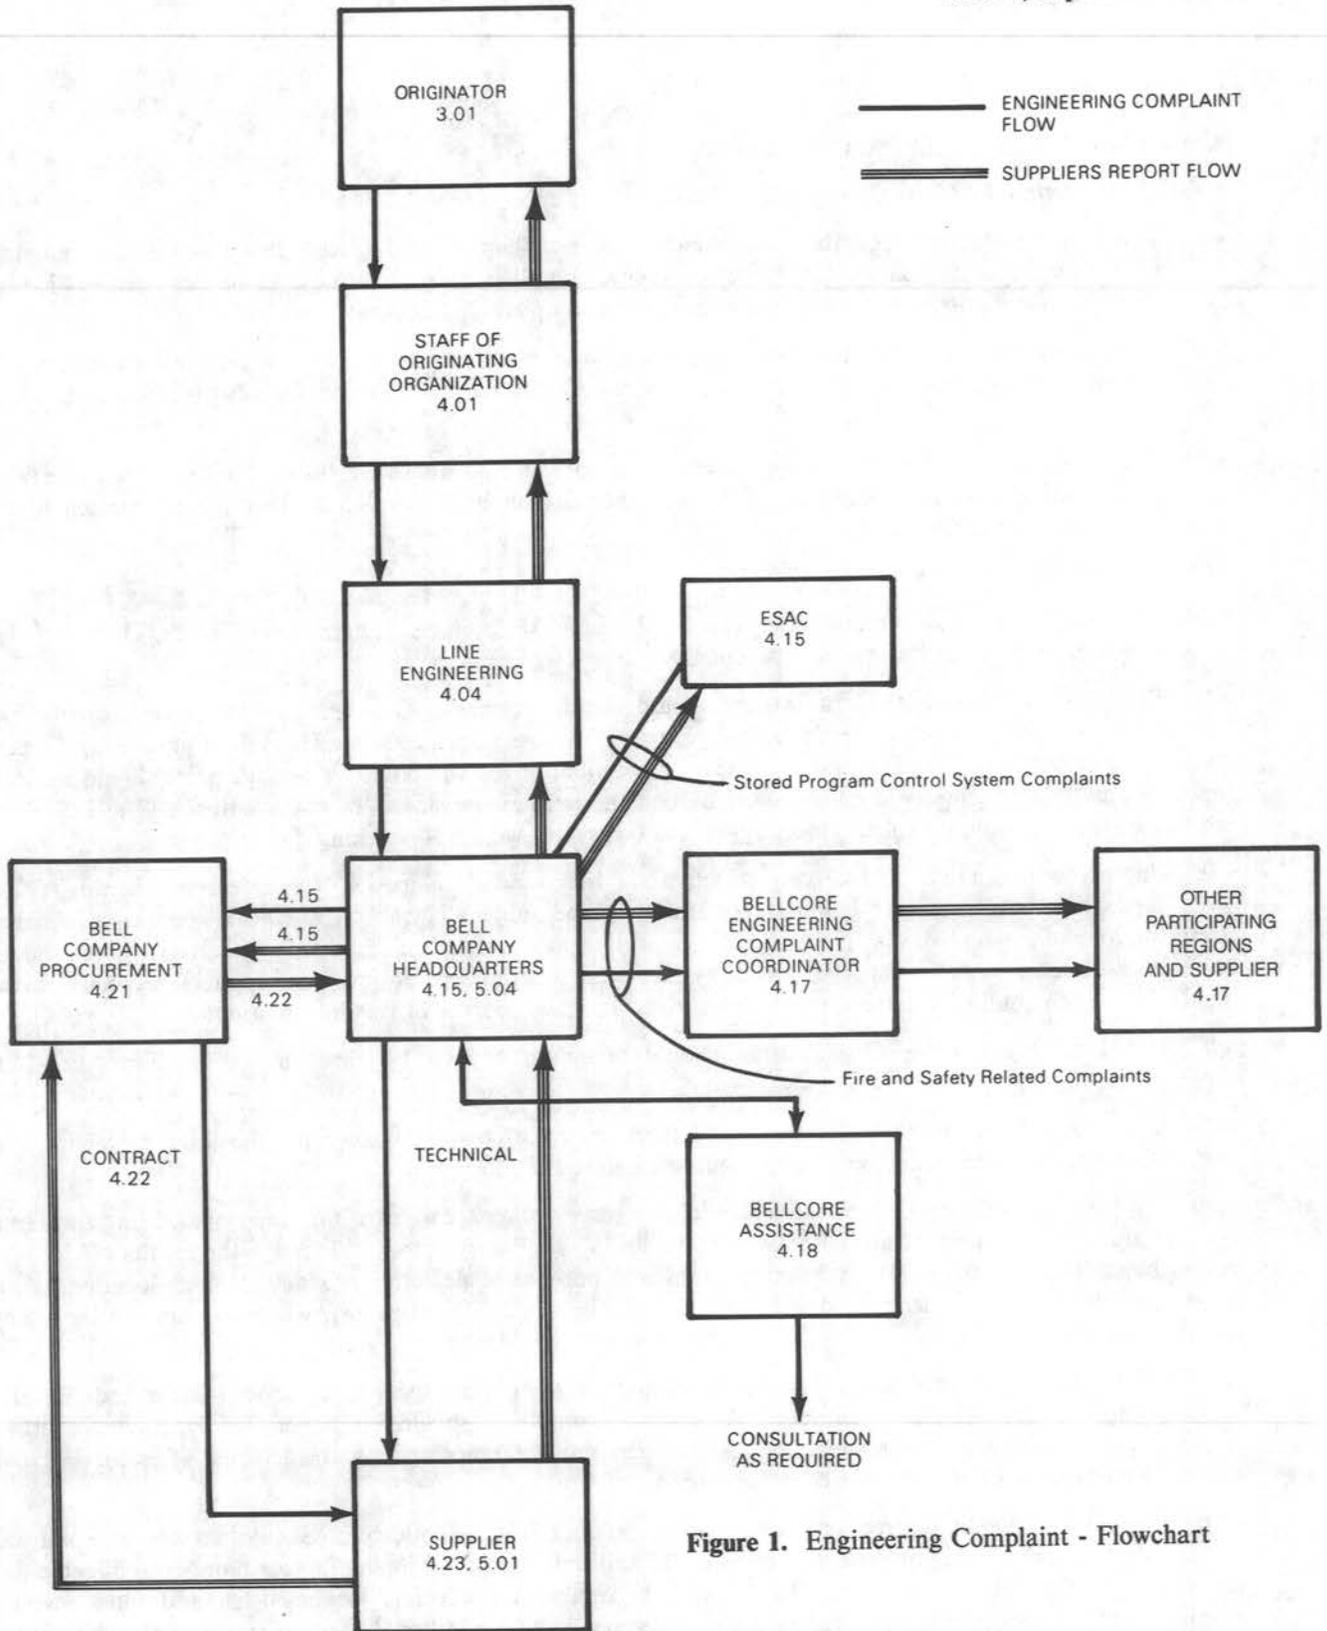

Figure 1. Engineering Complaint - Flowchart
| Figure 1. Engineering Complaint - Flowchart | 5 |
- 3.10 The Engineering Complaint should be routed to the Staff of the Originating Organization in accordance with local Company procedures. A suggested routing is shown in Fig 1.